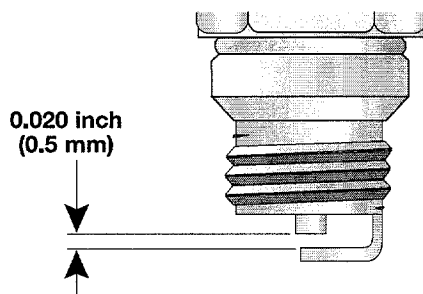

Figure 26
3. Set the air gap at 0.020 inch (0.5 mm) using a feeler gauge. See Figure 26.